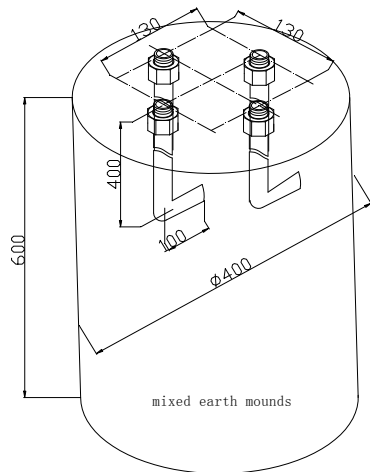

Figure1:manufacture of mixed earth mound
### Figure 1 the fabrication of anchor
5. Please refer to the national standard, or the European standard, or American standard or figure 1 in this manual to arrange grounding device.